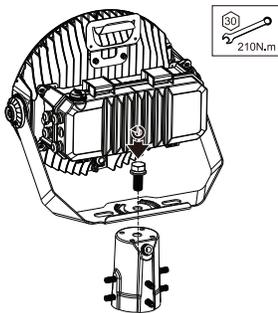

Fig. 15
2. Secure yoke mount to the slip fitter by inserting the mounting bolt through the centre of the yoke mount. Tighten to secure (Fig. 15).